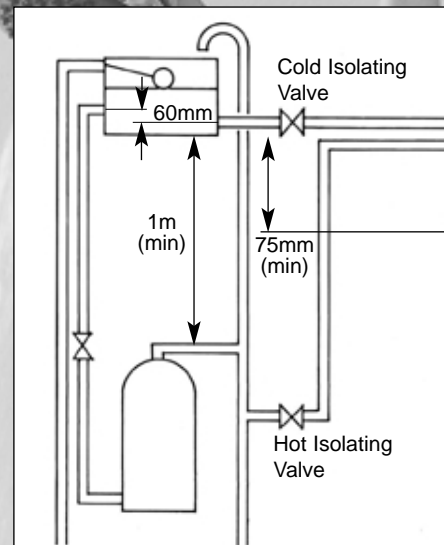

Fig 1 - Installation Diagram
- For correct operation of the NewTeam 201-T Power Shower both hot and cold water supplies to the unit must be gravity fed, at equal pressures, from a cold water storage tank and hot water storage cylinder, Fig1.
Procedure - Plumbing Connections Fig 1.